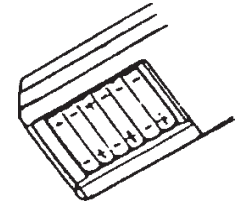

Figure 6
3. Insert the batteries into the compartment as indicated by the polarity symbols (+ and -) which are marked inside the compartment (see Figure 6) Replace the cover.